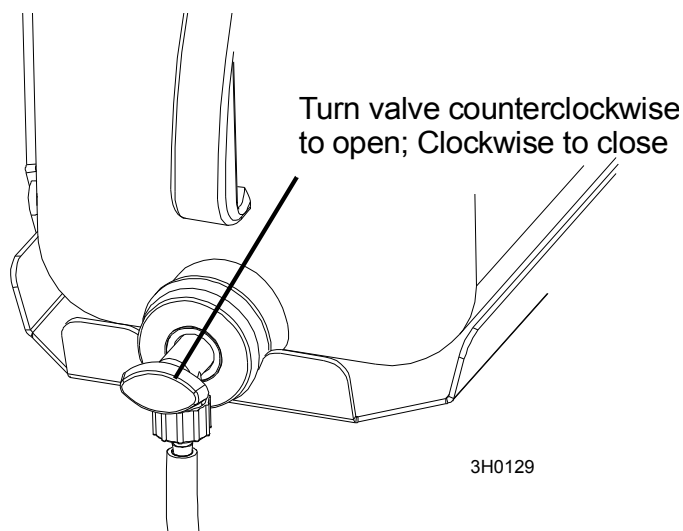

FIG. 2-16
**See Figure 2-16.** The Water Lube System keeps the blade clean. Water flows from a 5-gallon (18.9 liter) bottle through a hose to the blade guide where the blade enters the log. A valve in the bottle cap